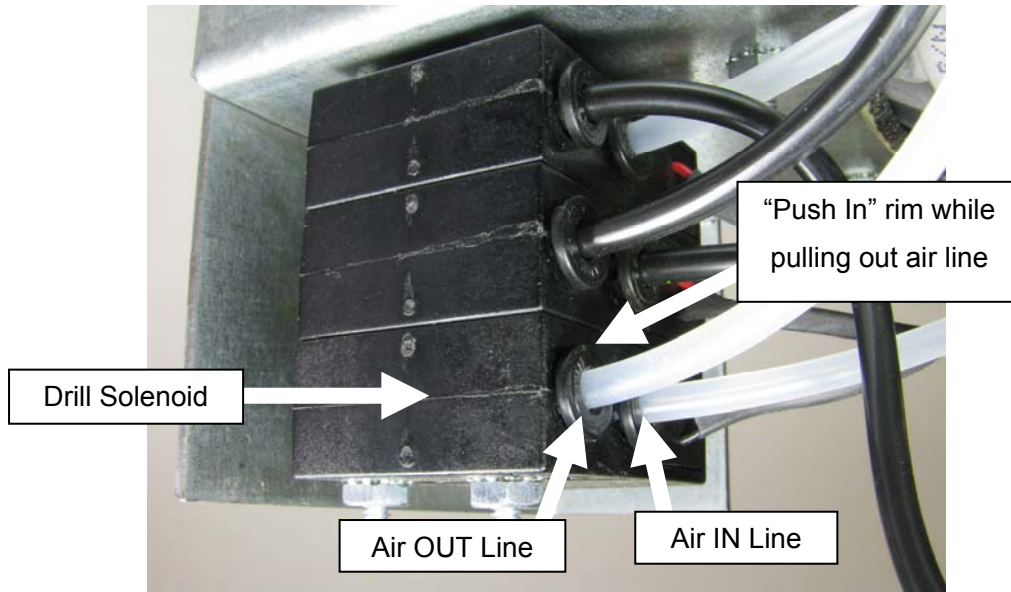

Fig 19
1. Disconnect power and air from the machine. Remove both air lines from the Drill Solenoid. **See Fig 19.**